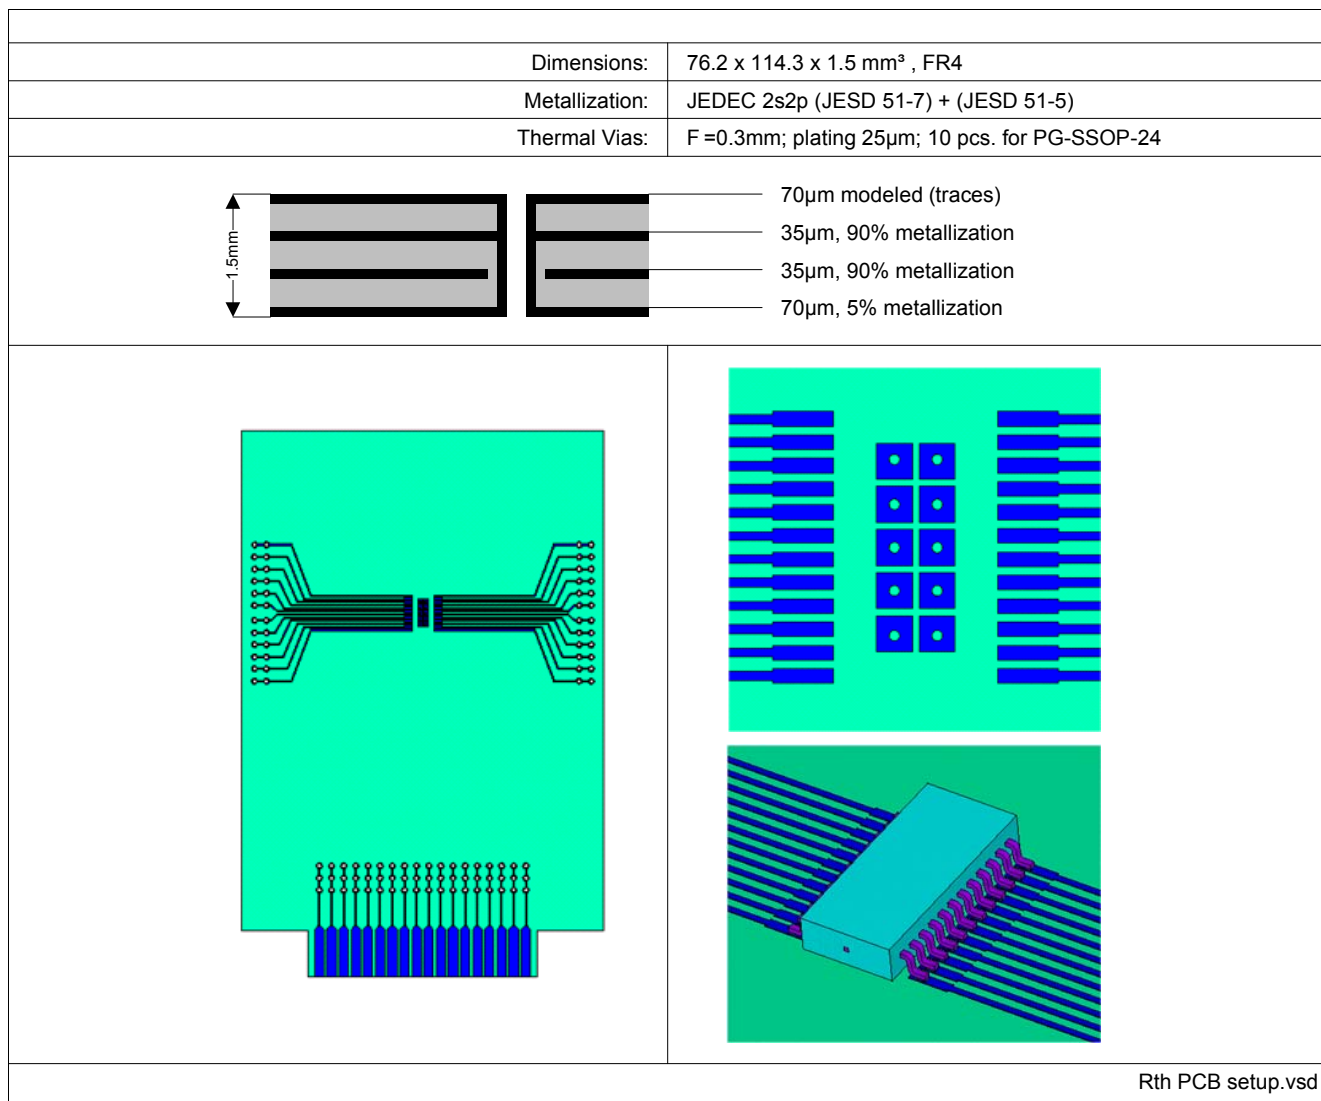

Figure 3 PG-SSOP-24 PCB setup
- 3) Refer to Figure 3 for the setup.